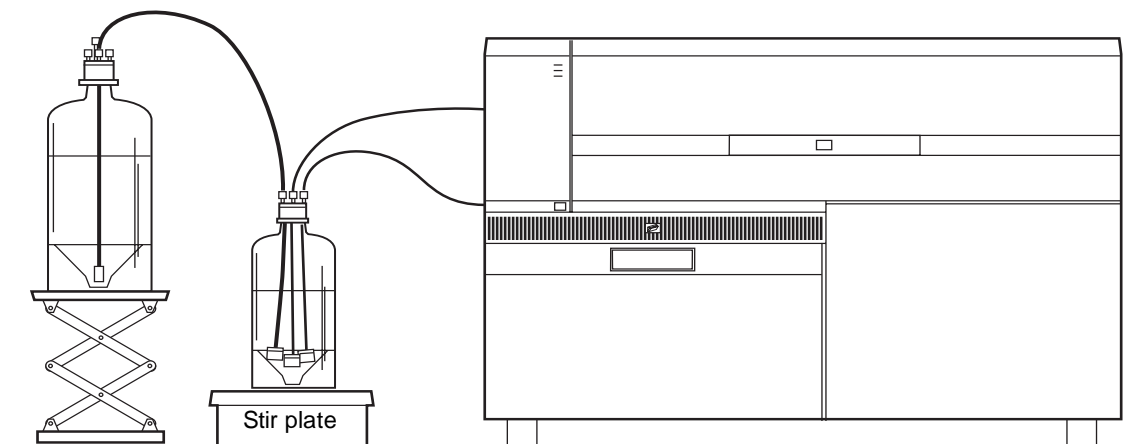

Figure 2-3 Connecting Solvent Reservoirs to the System
1. Connect tubing from the left side of the system to the reservoir as follows (Figure 2-3):
Note: The solvents must be higher than the solvent management system (pump). For THF and less viscous solvents (chloroform, methylene chloride), set the bottles on top of the instrument or on a jack 18 inches higher than the solvent management system. Place aqueous buffers on a jack 12 to 18 inches higher than the solvent management system; the height depends upon the solvent used. Waters recommends the use of solvent safety trays which are not depicted in Figure 2-3.
5. When a solvent serves many samples, you can continually replenish its reservoir by connecting a reserve bottle to it (Figure 2-3). When you add fresh solvent to the reserve bottle, the solvent is slowly siphoned into the solvent supply bottle. This allows any differences in solvent composition to be gradually introduced into the solvent supply, ensuring a stable RI baseline.